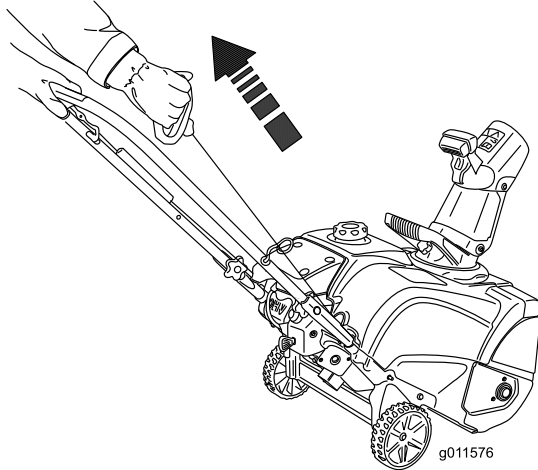

Figure 19
4. Connect an extension cord to a power source and the machine, and push the electric-start button (model 38473 only) (Figure 18), or pull the recoil start handle (Figure 19).